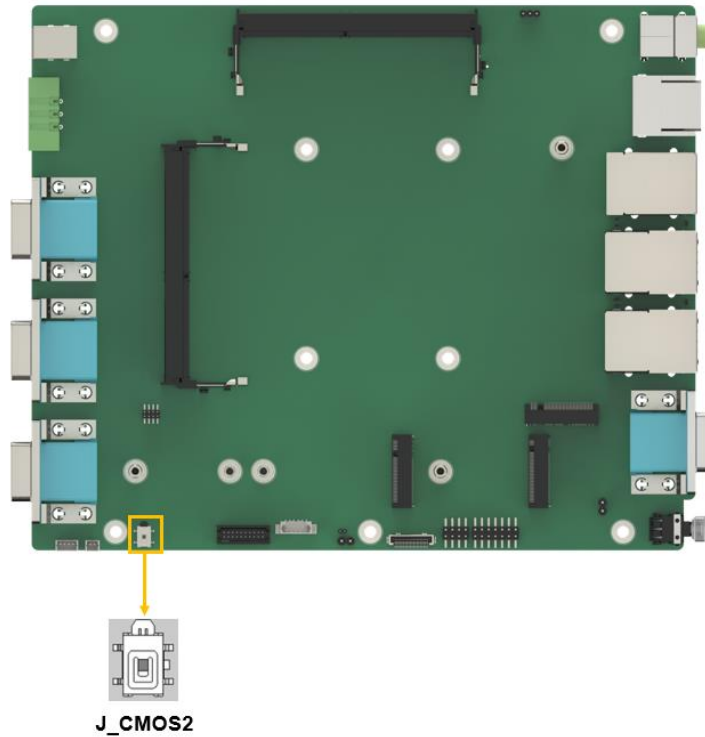

Figure 4-5: Clear CMOS Location
- CN Location:** See **Figure 4-5**